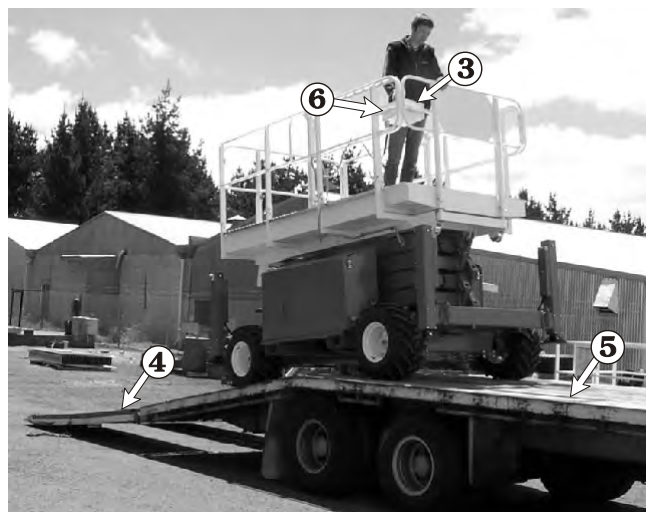

Figure 10.4
6. Use the joystick controller ❸ to slowly drive the S3970RT / S3370RT / S2770RT straight onto the ramp ❹ and trailer ❺ (see Figure 10.4).
7. When the S3970RT / S3370RT / S2770RT is in place on the trailer, push the **Emergency Stop** switch ❹ (see Figure 10.4) in (OFF) at the platform control box.